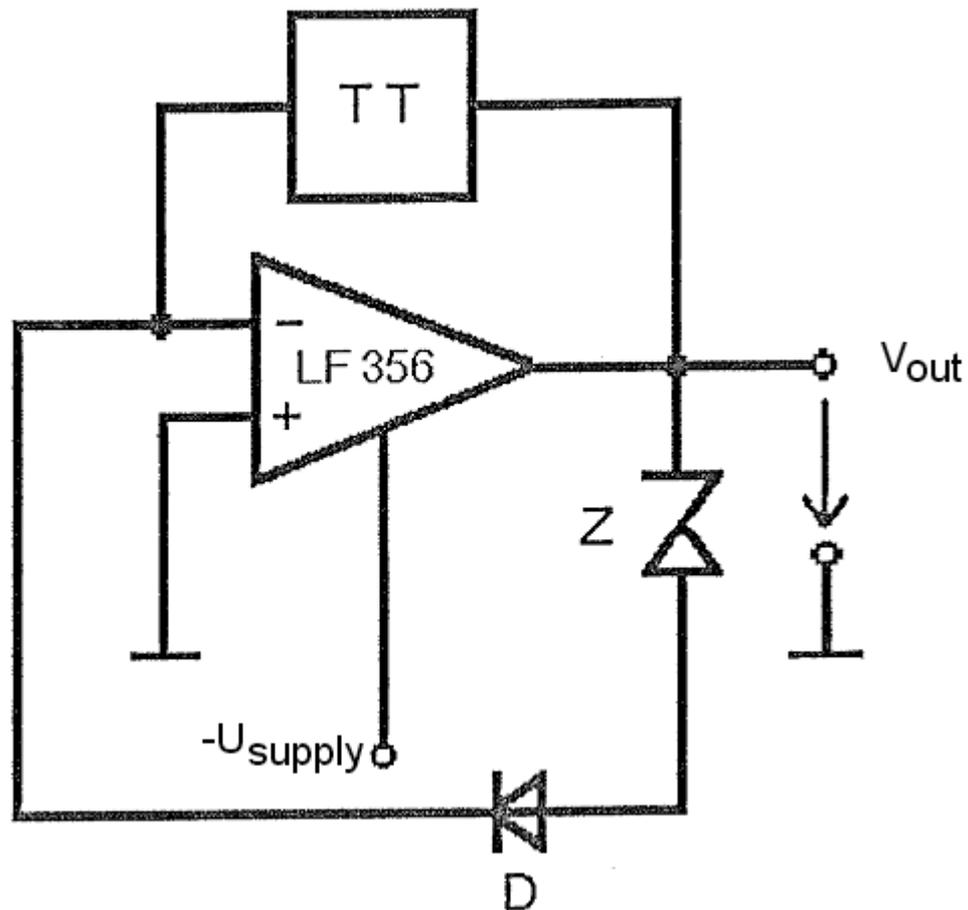

Figure 5. TT oscillator
We can make an oscillator by using the double-T as feedback to the opamp as seen in figure 5. Theoretically the oscillator only works if the R and C values are not ideal; this is automatically done by the nonzero tolerances. The oscillation frequency will be the same as the double-T's  $f_0$ .
- Build the total circuit from figure 5. Measure the output voltage and waveform using different Zener-diodes (different breakdown voltage). Compare the output voltage with calculations.